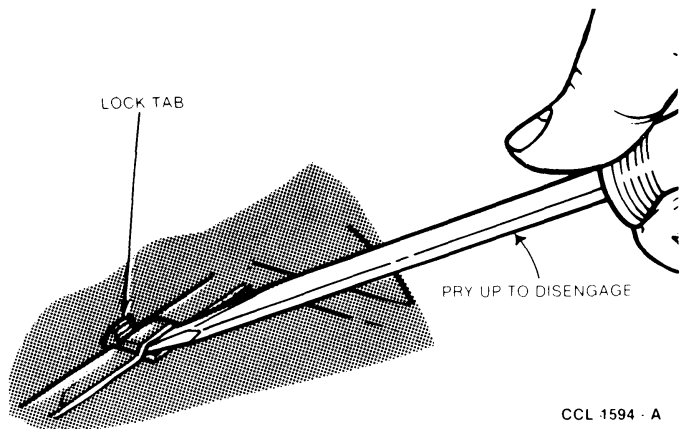

Fig. 11 — Disengaging Lock Tabs
2. Disengage the plenum case lock tabs (one at a time) as shown in Fig. 11 and separate the two halves of the plenum case.